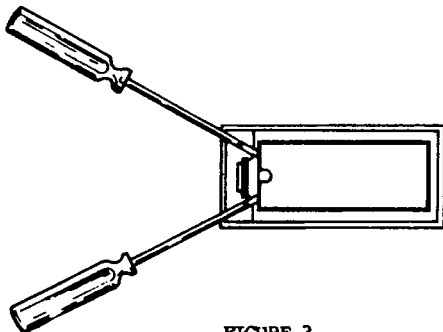

FIGURE 3
5) Carefully insert the screwdriver blade under the ROM but **ABOVE THE SOCKET**, between the latchbar and the side of the ROM (see Figure 3). Lever the ROM upwards from alternate sides until it is clear of the socket.